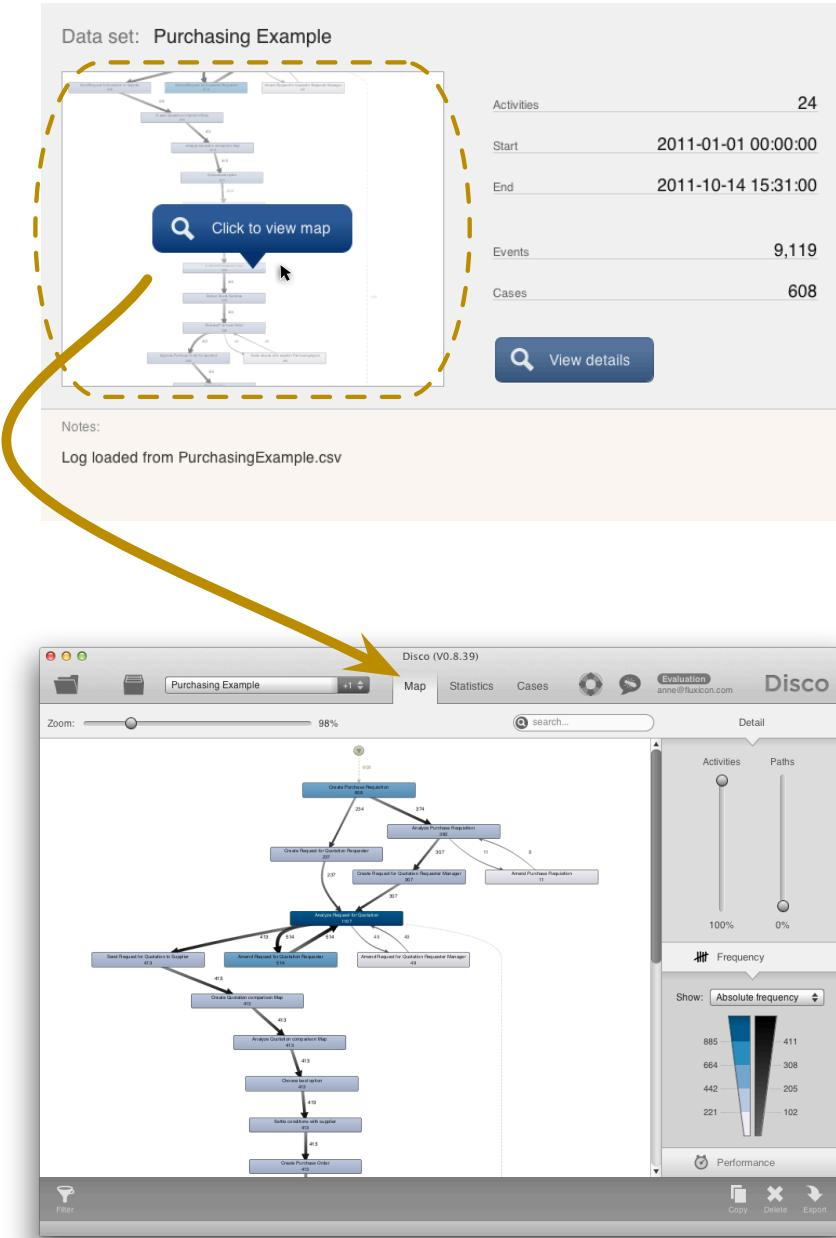

Fig. 6.4. Clicking on the map preview in the project view brings you directly to the process map for your data set.
- If you want to see the process map (Chapter 4.1), simply move your mouse over the thumbnail preview of the process map in the in your project view. A little speech bubble with the text *Click to view map* appears (see Figure 6.4). Once you click in the thumbnail area, you will be directly brought to the Map view for your data set.